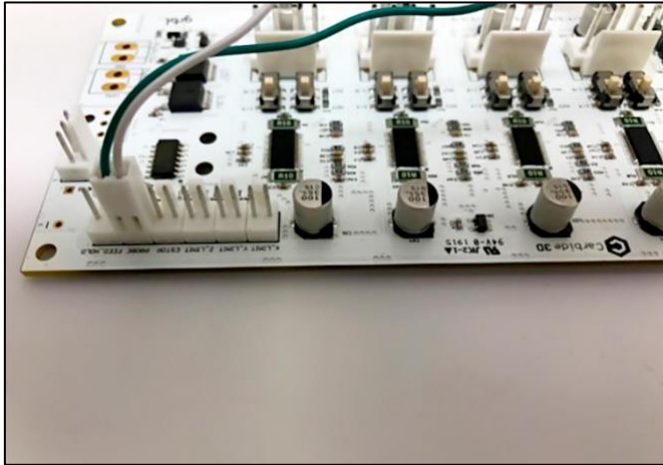

Figure 9
1. Connect the female connector (green and white wires) to the probe pins as shown in **Figure 9**.